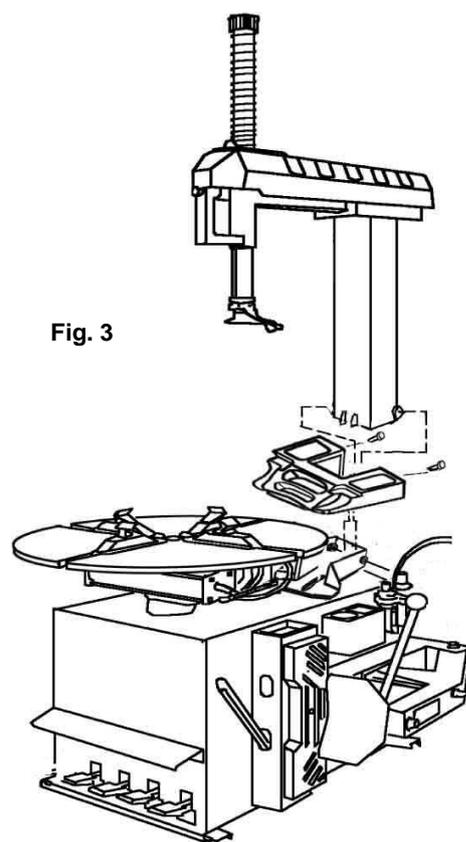

Fig. 3
- Assemble the changer as shown in Fig. 3